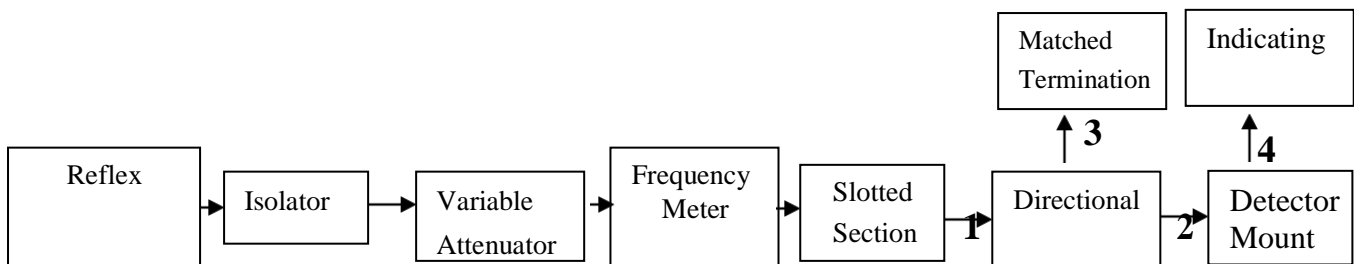

Fig: 1
- 1) Assemble the set up as shown in fig. 1 by connecting mount detector initially instead of Directional Coupler.